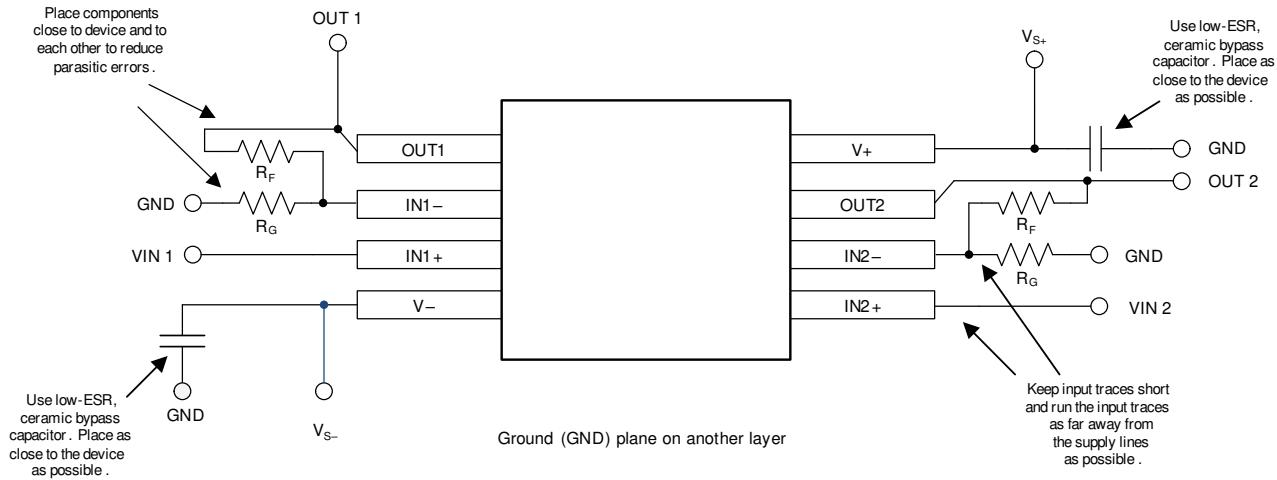

图 8-4. Layout Example
- Place the external components as close to the device as possible. As illustrated in 图 8-4, keeping  $\text{R}_F$  and  $\text{R}_G$  close to the inverting input minimizes parasitic capacitance on the inverting input.